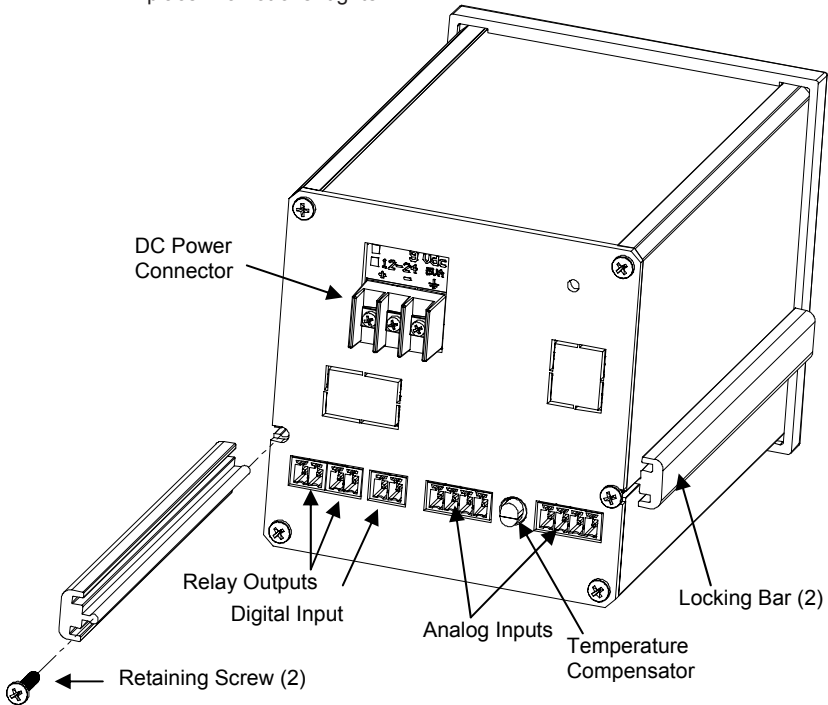

Fig 2.2 Rear View - Installation
- 2.2.1.5 With the Recorder held firmly in place against the panel, install one of the locking bar assemblies by sliding the locking bar notch into the groove on the side of the Recorder enclosure as shown in Figure 2.2.